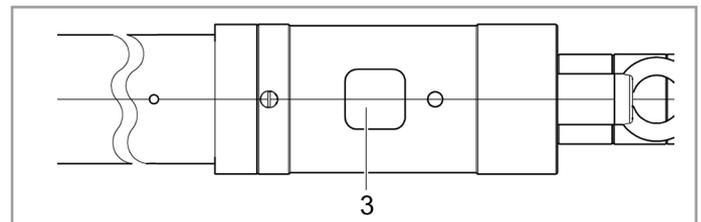

Fig. 6 *Start closure*
2. Press the START button (Fig. 6/3).
Fingers can be crushed when the START button (Fig. 6/3) is pressed or when a start is initiated by an external control.